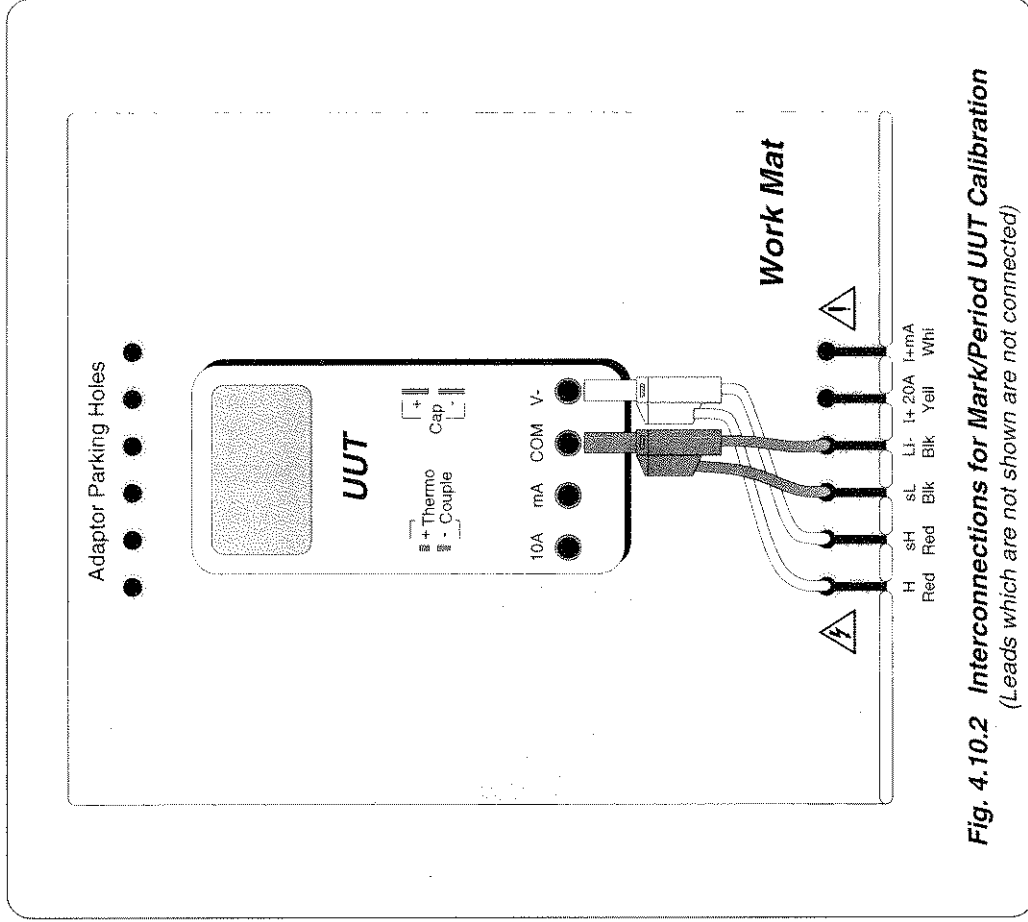

Fig. 4.10.2 Interconnections for Mark/Period UUT Calibration
The general connection scheme for UUT calibration is illustrated in Fig. 4.10.2. For UUTs without *safety* banana sockets, use appropriate adaptors.
1. **Connections** Connect the 9100 to the UUT as shown in Fig. 4.10.2, and ensure that both instruments are powered ON and warmed up.
1. **Connections** Connect the 9100 to the UUT as shown in *Fig. 4.10.2*, and ensure that both instruments are powered ON and warmed up.